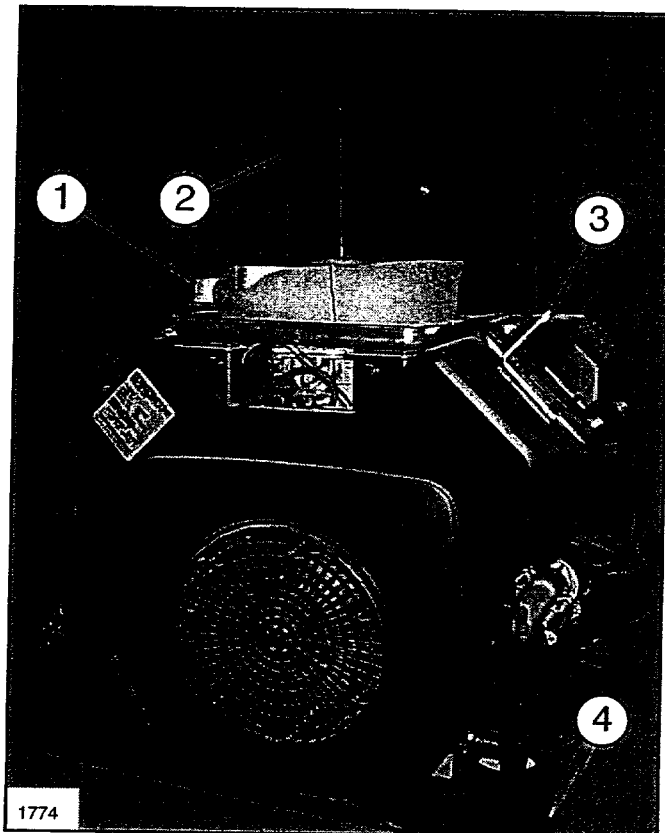
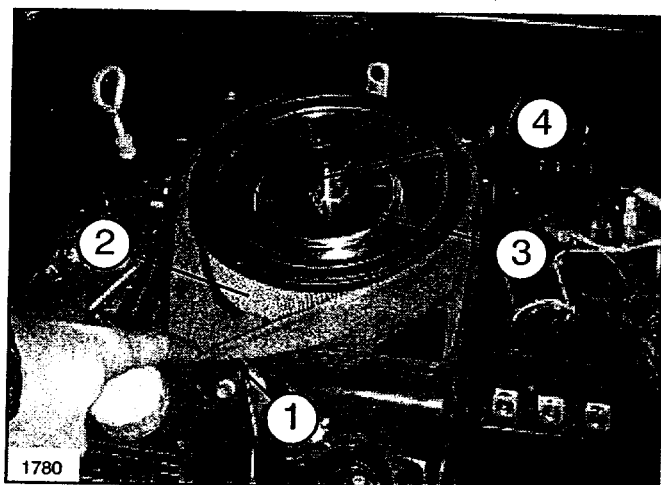
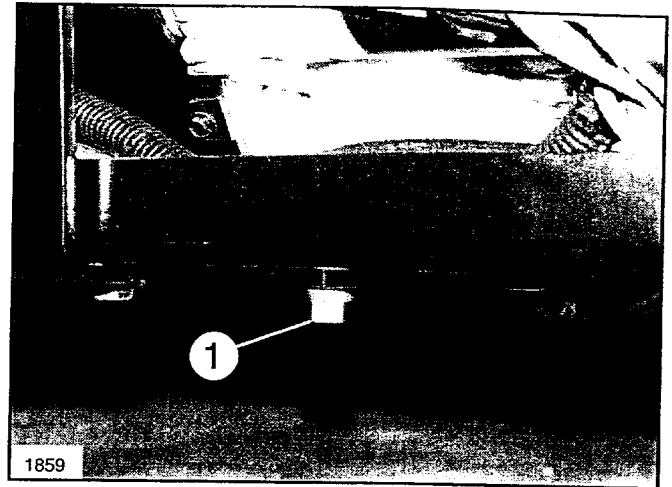

FIG. 12
FIG. 13
FIG. 17
1. Remove wing nut and Air Cleaner Cover. (See FIG. 12)
2. Remove the precleaner (FIG. 13) from the paper element and wash in warm water with detergent. Rinse the precleaner thoroughly until all traces of detergent are eliminated. Squeeze out excess water (do not wring). Allow the precleaner to air-dry.
1. Remove the Air Cleaner Cover. (See FIG. 12) Remove the element cover nut washer, element cover and paper element with precleaner. (See FIG. 13)
1. Drain the oil from the engine crankcase. For Oil Drain location see FIG. 17 this page or FIG. 12, page 35.